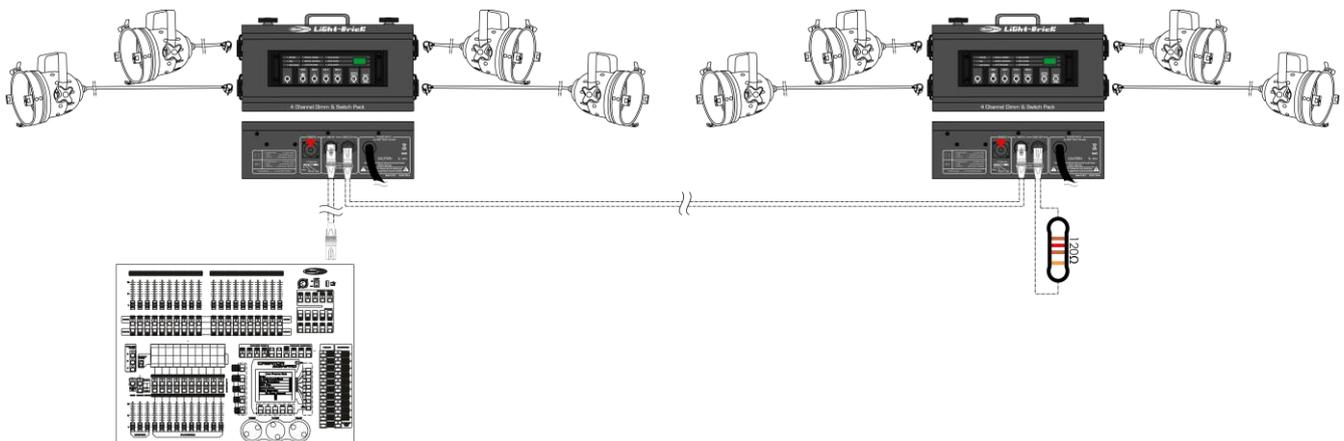

Fig.04
03) Link the units as shown in fig. 04. Connect the first unit's DMX "out" socket with the second unit's "in" socket, using a DMX signal cable. Repeat this process to link the desired number of units.